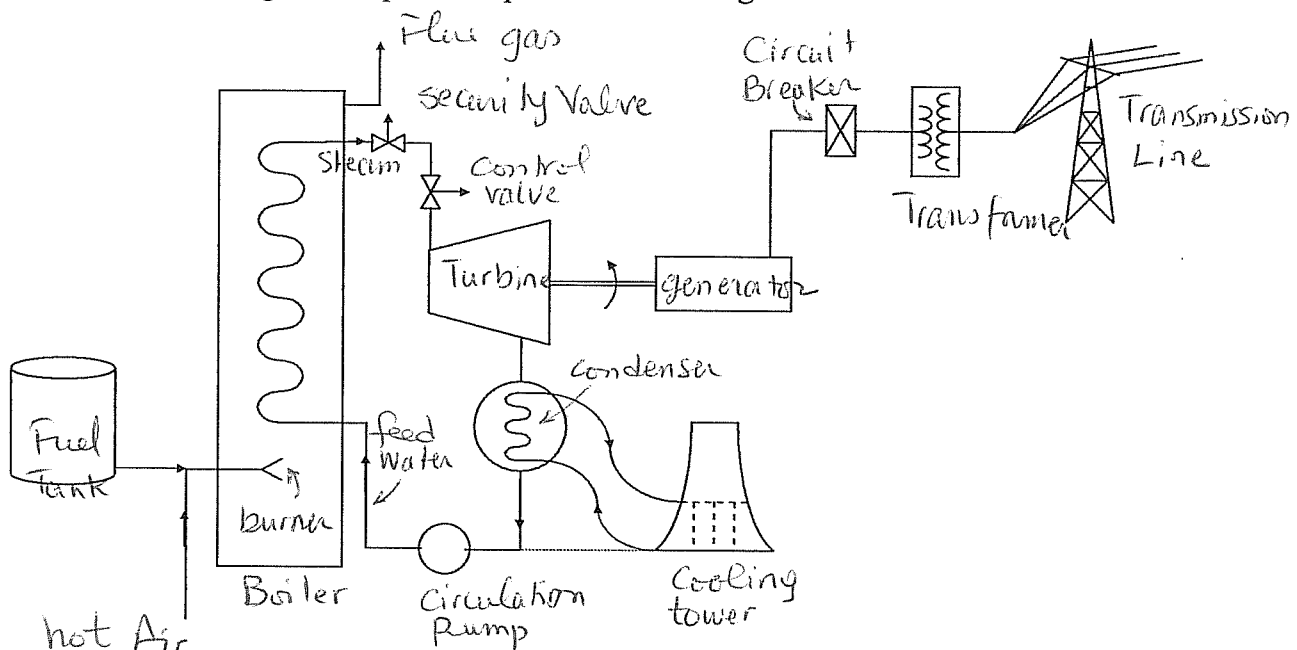

Fig.1: Oil-fired Steam Power Plant
- a) Label the various components of the power station schematic shown in Fig.1 below and give it a specific caption next to the figure number.